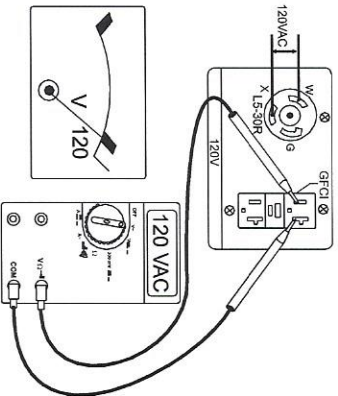

Figure 22. 120V Twist-Lock/GFCI Receptacles
- Read voltmeter on front panel of generator (Figure 22) and verify that 120 VAC is displayed. Using an external voltmeter as shown in Figure 22, verify that 120 VAC is present at the 120V twist-lock and GFCI duplex receptacles.